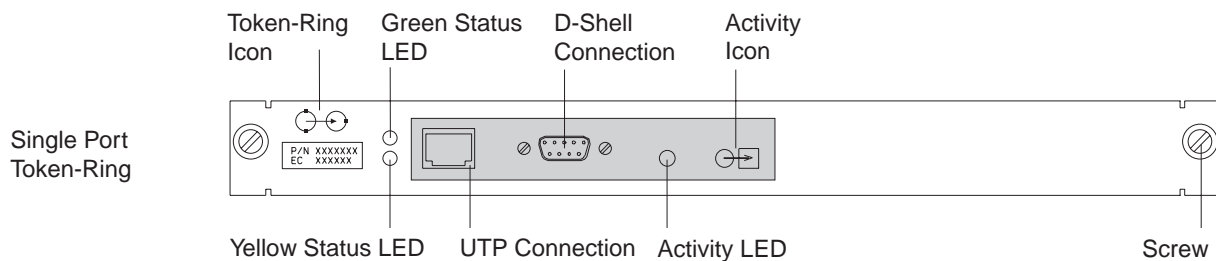

Figure 2-8. Single-Port Token-Ring Attachment Module
- b. \_\_\_\_ Connect cable **A** (PN 6339098) from the D-Shell connector of the token ring module (refer to Figure 2-8 on page 2-9) to the SPAU (8228).